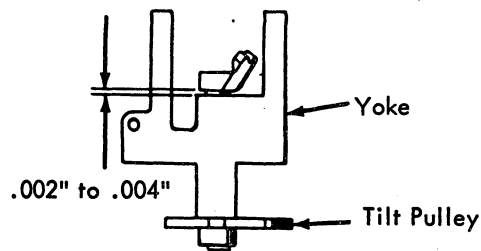

FIGURE 93. Tilt Tube End Play Adjustment
1. **Tilt Tube End Play** - (machines prior to gearless tilt). The tilt pulley should be adjusted up or down on the tilt tube so that .002" to .004" end play exist in the tilt tube (Fig. 93).